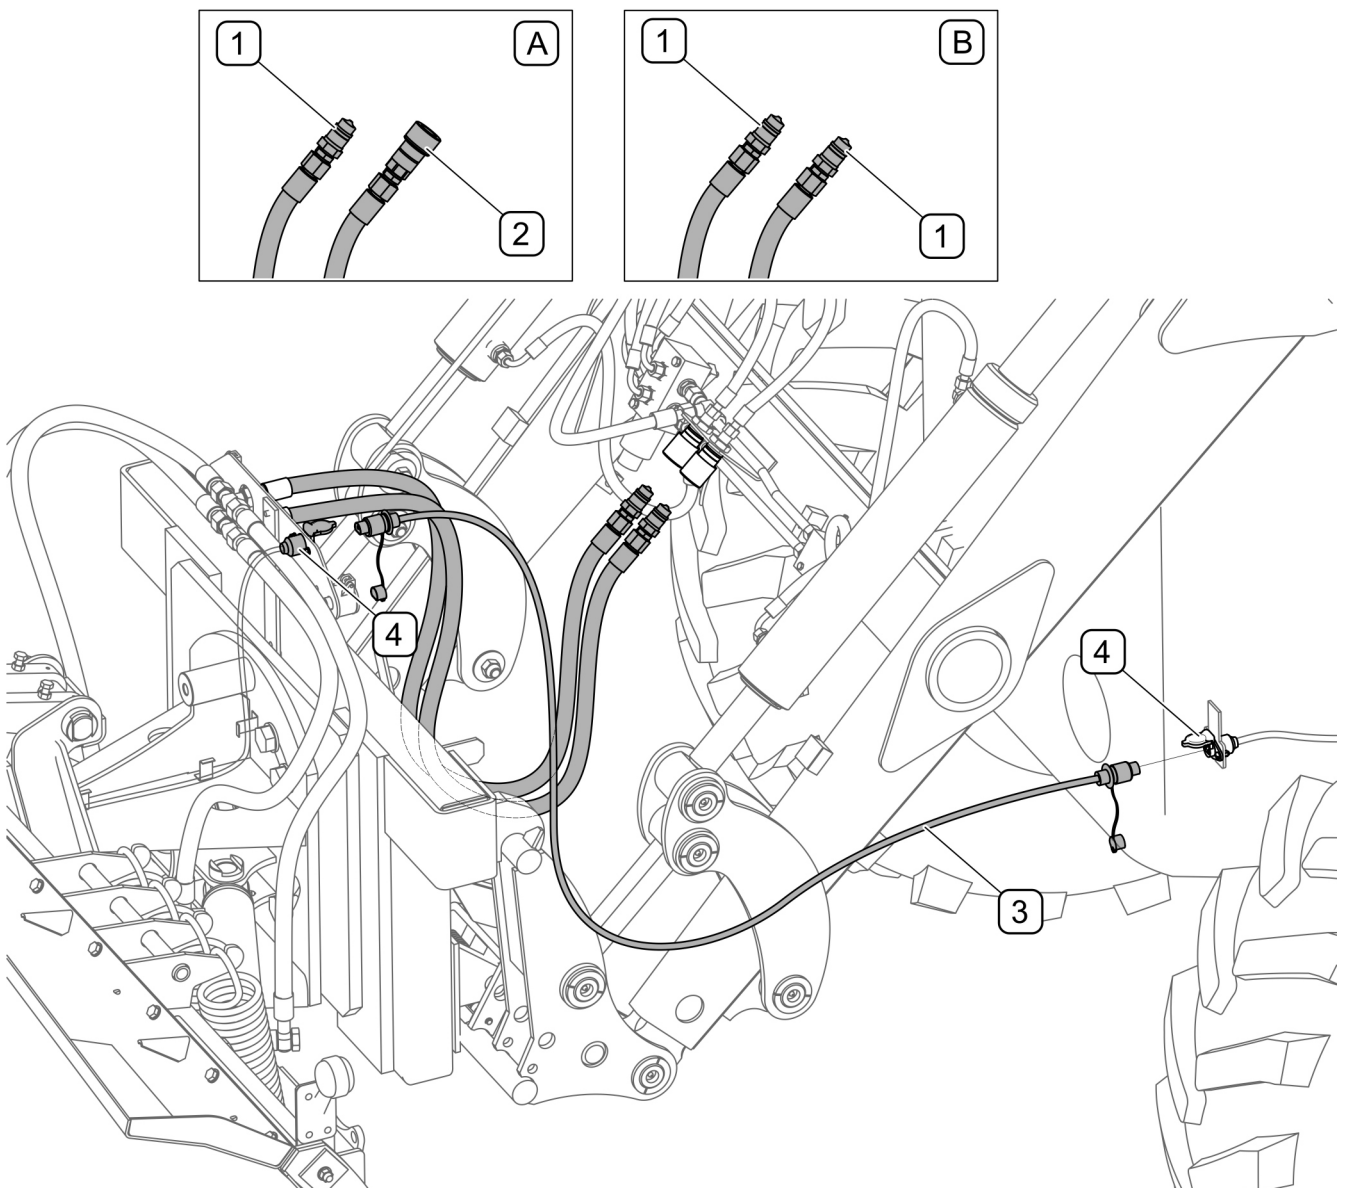

FIGURE 4.6 Connecting hydraulic and electrical system to loader
Connect plough control hydraulic conduit connectors (1), (2) (FIGURE 4.6) to the loader external hydraulic outlets. Plough compatible with ŁC-1650 front loader has two hydraulic plugs (1) while the plough compatible with the EURO mount loaders has a plug (1) and socket (2). Clearance lamps plug (3) must be connected to 3-pin sockets (4) of the plough and tractor. Arrange electrical wires and hydraulic conduits so as to prevent their damage during operation.